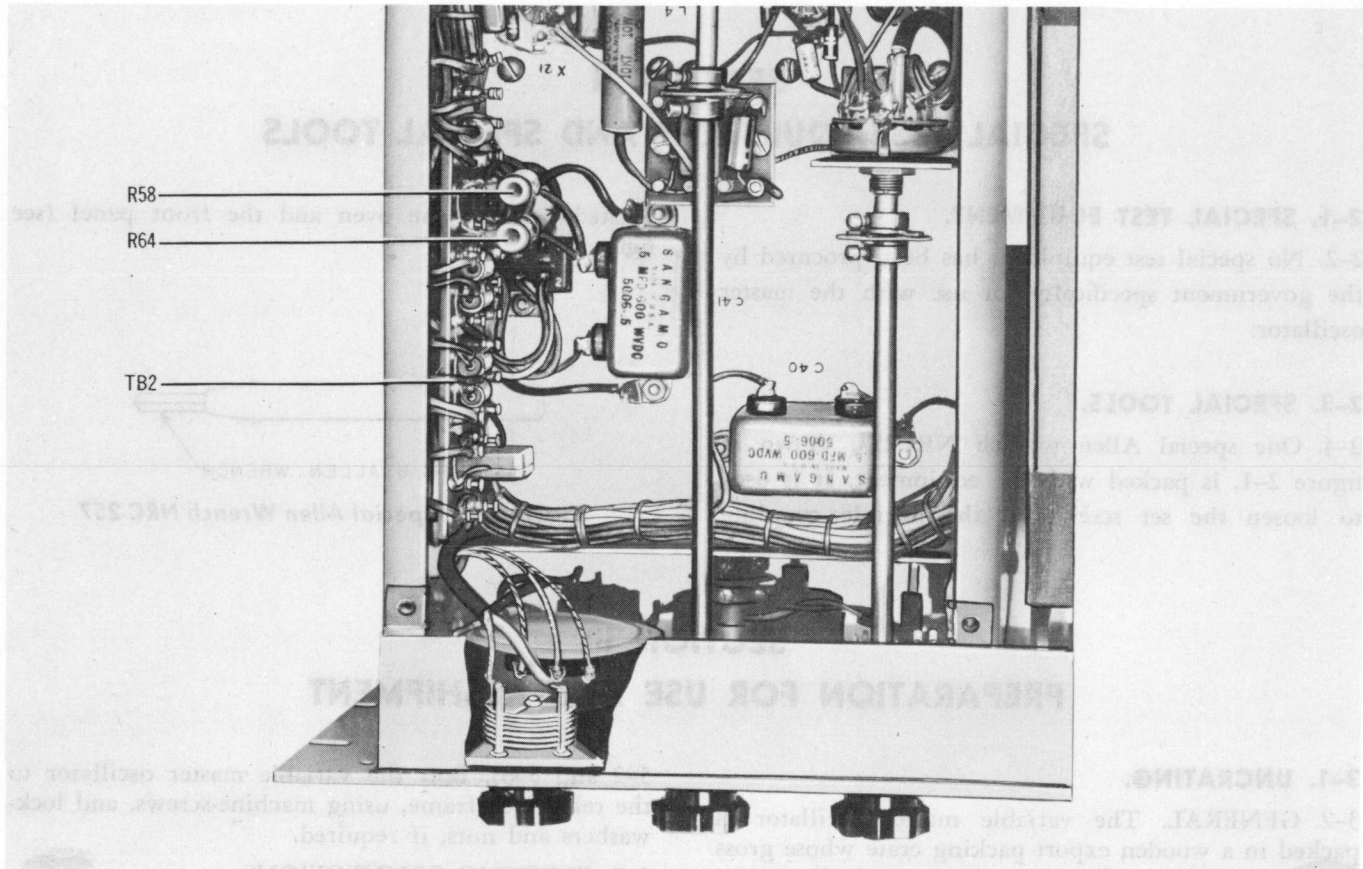

Figure 3-1. Main Chassis, Location of Components
- e. Remove the shorting straps across resistors R58 and R64 on terminal board TB2 (see figure 3-1).